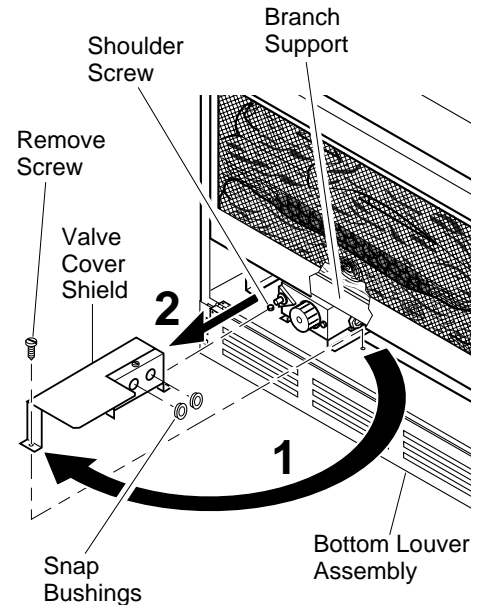

Figure 16 - Removing Valve Cover Shield
1. Open bottom louver assembly by swinging the assembly down (see Figure 16).
2. Using short Phillips screwdriver, remove the screw under the center of the branch support. Rotate valve cover shield clockwise and slide out. **IMPORTANT:** Do not remove shoulder screw on the left side of valve cover shield. Slide the valve cover shield off of the shoulder screw (see Figure 16).